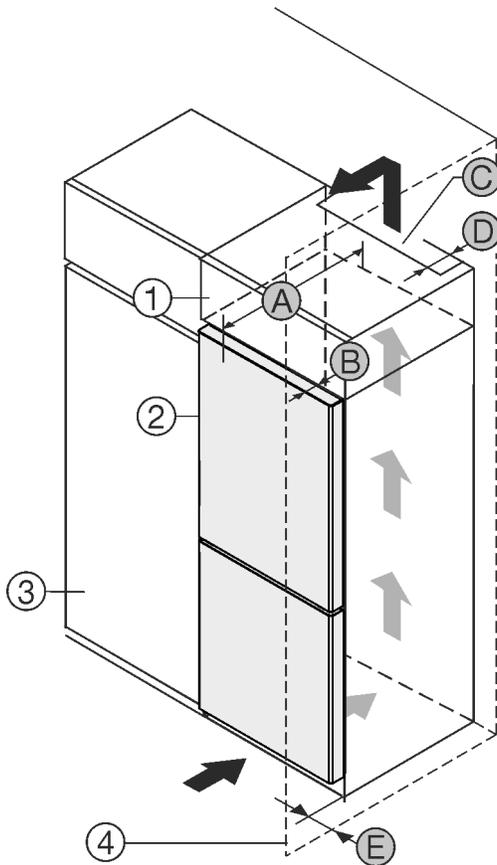

Fig. 1
- (1)** Top cupboard*
- (2)** Appliance*
- (3)** Kitchen cabinet*
- (4)** Wall*
- (A)** Appliance depth*
- (B)** Door depth*
- (C)** Ventilation cross-section*
- (D)** Distance to the rear of the appliance*
- (E)** Distance to the side of the appliance*
Set up the appliance directly next to the kitchen cabinet Fig. 1 (3).*
There must be a ventilation shaft at the depth Fig. 1 (D) of the back of the top cupboard over the entire width of the top cupboard.*
The cross section of the ventilation gap Fig. 1 (C) must be maintained below the ceiling.*
If the appliance is installed with the hinges next to a wall Fig. 1 (4), the distance between the appliance and the wall must be at least 13 mm (0.51 in).*
In order to be able to fully open the door, the appliance must protrude by the depth Fig. 1 (B) of the door from the front of the kitchen cabinet. Regardless of the depth of the kitchen cabinets Fig. 1 (3) and use of wall spaces, the appliance can protrude further.*